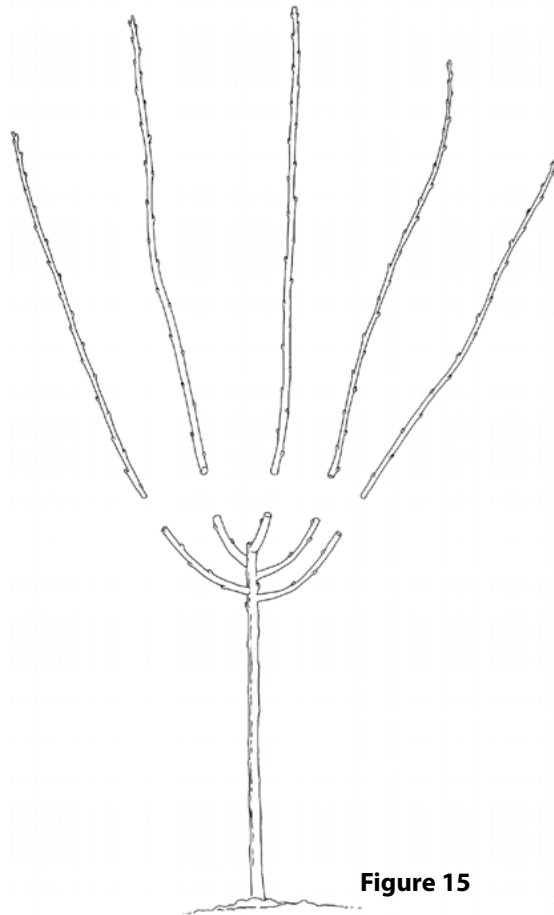

Figure 15
- Head all leaders to 2–5 inches in length (Figure 15).